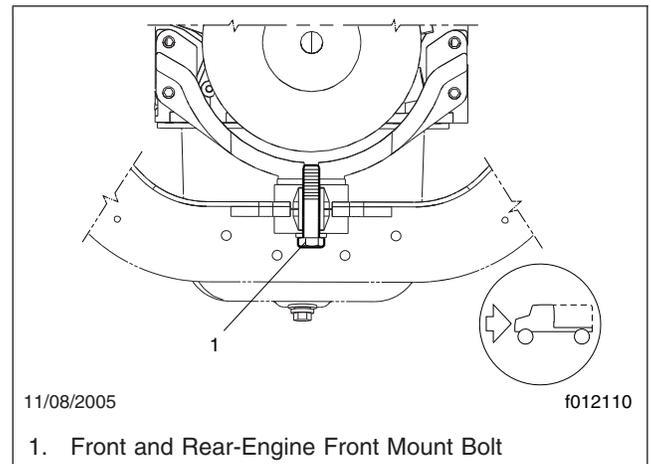

Fig. 2, Front and Rear-Engine Front Mount (ISB chassis built after 2002)
- Check the 3/4–10 front-engine front mount bolt. See Fig. 2. Tighten it 95 lbf·ft (128 N·m).